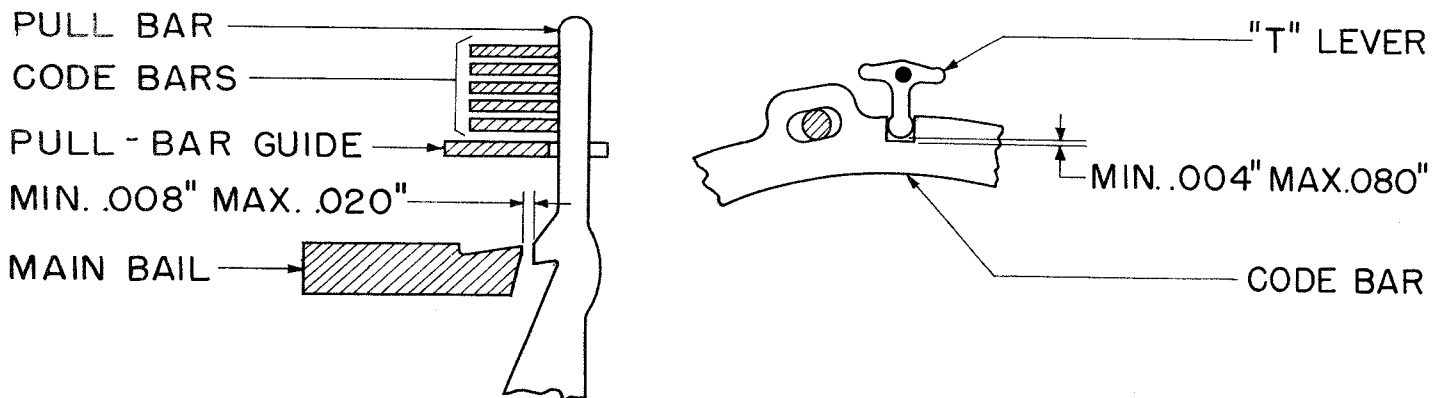

Figure 8
- (a) There shall be a clearance as indicated in Figure 8 between the mainbail and the projections on the unselected pullbars. Where the mainbail plunger is equipped with an oilcup, the oilcup shall clear the pullbar guide.
- (b) There shall be a clearance as indicated in Figure 8 between the end of the No. 1